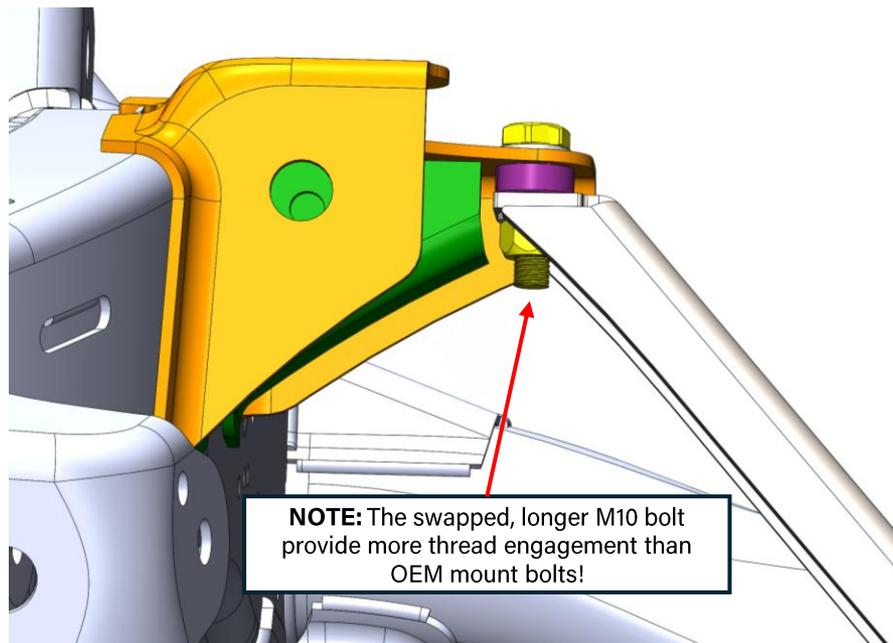

Figure 35: Motor mount bracket loosely installed
28. **Loosely** install the provided driver-side motor mount bracket. This bracket has a clearance bend for the driveshaft. See Figure 35 below for clarification. **Install below the motor mount using the provided M10 locknut and washer. Do not install the skid plate yet!**